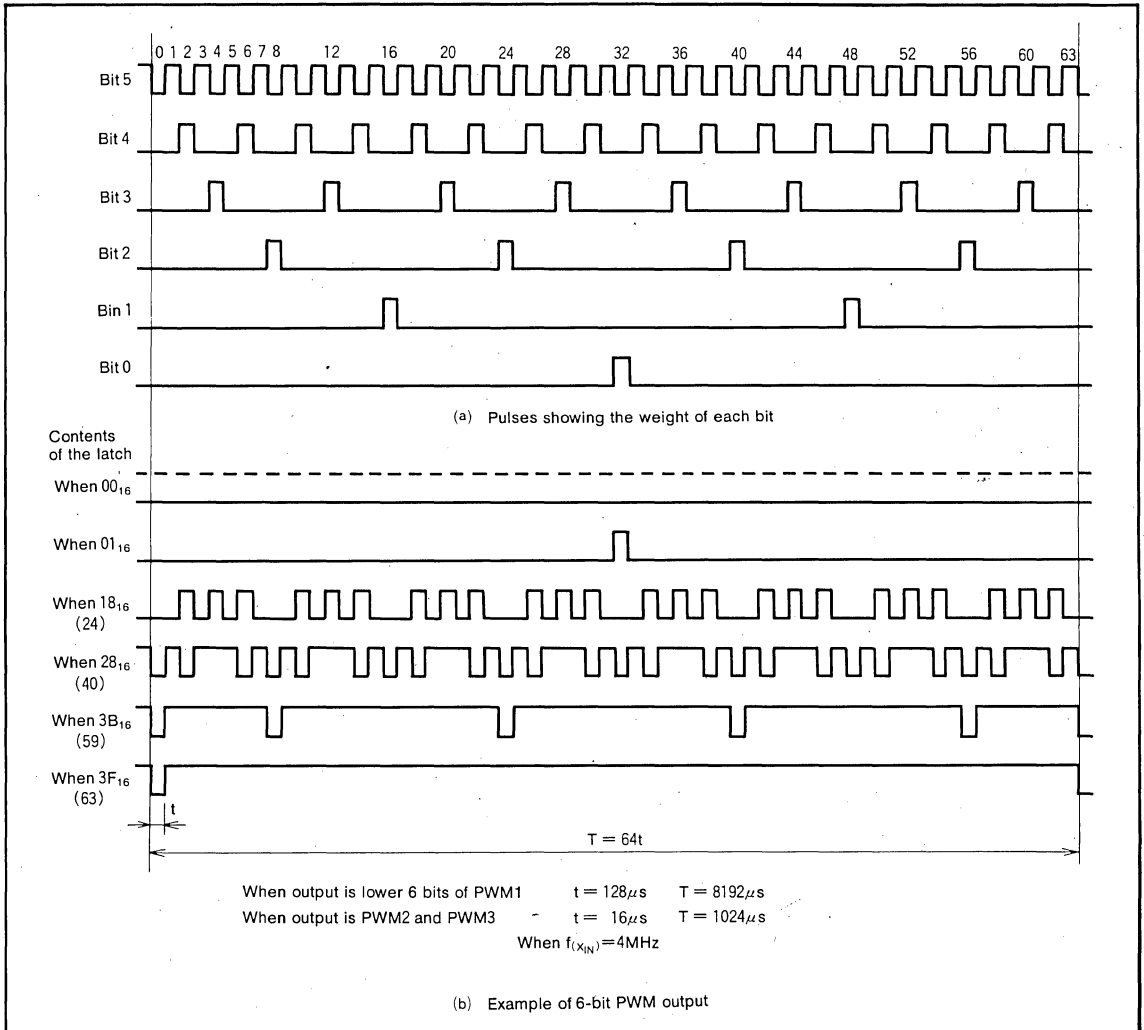

Fig.10 6-bit PWM timing diagram
(4) Operation of the 6-bit PWMs
The timing diagram of the two 6-bit PWMs (PWM2 and PWM3) is shown in Figure 10. One period (T) is composed of 64 (26) segments.
There are six different pulse types configured from bits 0~5 representing the significance of each bit. These are output within one period in the circuit internal section. Refer to Figure 10(a).
is selected. The PWM output is the difference of the sum of each of these pulses. Several examples are shown in Figure 10(b). Changes in the contents of the PWM latch allows the selection of 64 lengths of high-level area outputs varying from 0/64 to 63/64. An length of entirely high-level output cannot be output, i.e. 64/64.